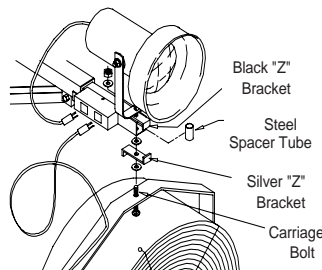

Figure 11 - Fan and Light Attachment
5. (Refer to Figure 11) Insert the steel spacer tube in the end of the arm tube as shown. Line up holes in tube with inside of spacer.
7. Slip one (1) flat washer onto bolt followed by the bent "Z" bracket (silver color).
NOTE: Position the upward extending leg toward the front of the fan as shown in Figure 11. Add another (1) flat washer on top of "Z" bracket.